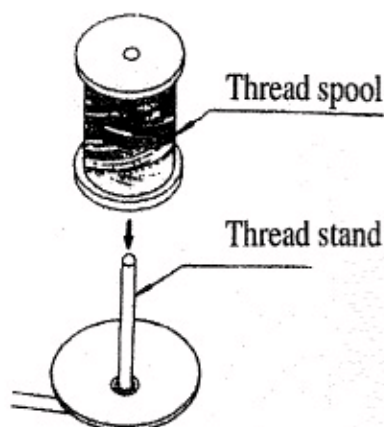

FIG.10
B. Using common thread spool, please take off the plastic cap and put the thread spool on the thread stand. (Fig. 10)